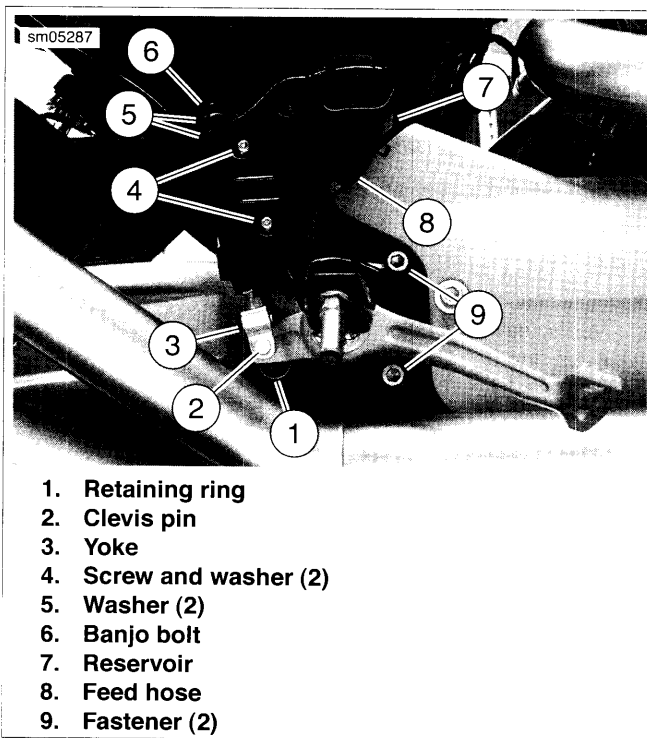

Figure 2-86. Rear Brake Master Cylinder and Reservoir
1. See Figure 2-86. Drain rear brake master cylinder reservoir (7) and remove feed hose (8) from master cylinder feed hose port fitting. See 2.14 REAR BRAKE MASTER CYLINDER RESERVOIR. Discard hose clamp.
1. See Figure 2-86. Assemble and install master cylinder/footpeg mounting bracket if it was removed. See 2.41 RIDER FOOT CONTROLS: XR MODELS.
2. Install rear master cylinder assembly to mounting bracket with screws and washers (4). Tighten to 72-96 in-lbs (8.1-10.9 Nm).
3. Fit yoke (3) onto foot pedal. Install clevis pin (2) and secure with **new** retaining ring (1).